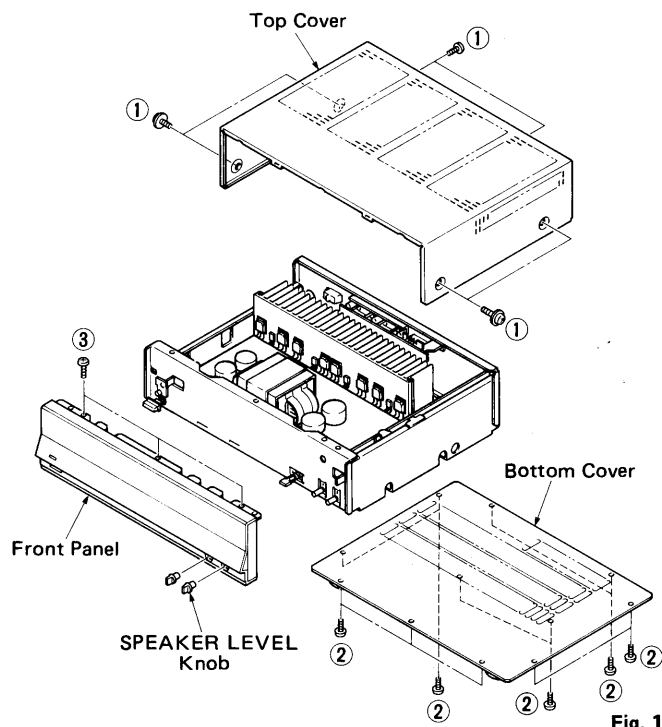

Fig. 1
Remove 6 screws (①) in Fig. 1, and slide the Top Cover back.
Remove 11 screws (②) in Fig. 1.
- Remove 2 SPEAKER LEVEL Knobs in Fig. 1.
- Remove 3 screws (③) in Fig. 1, and remove the Front Panel toward the front.